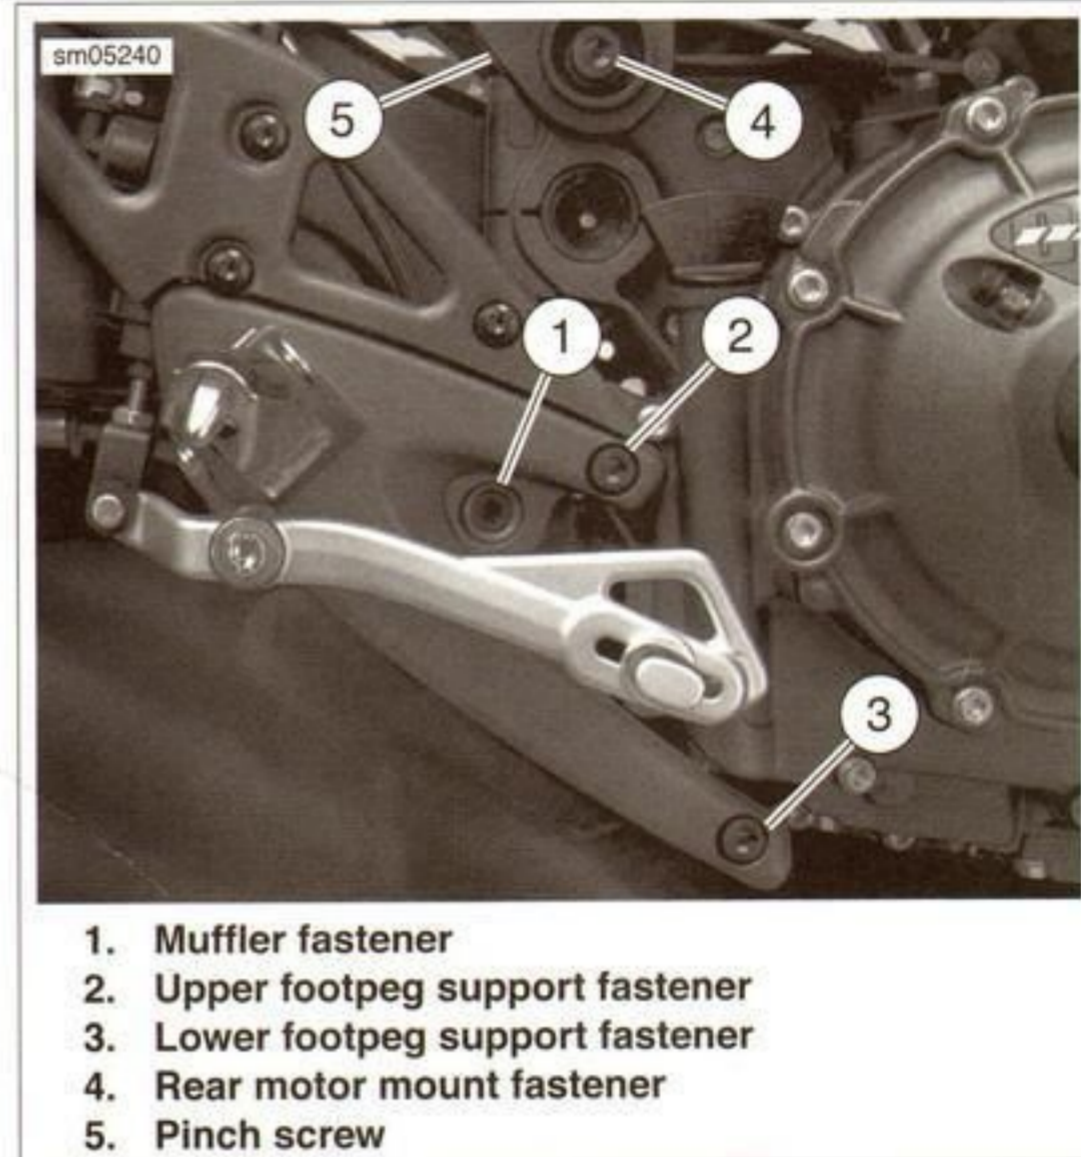

Figure 3-46. Right Rider Footpeg Support
1. See Figure 3-46. Install rear motor mount fastener (4) on each side of vehicle. Do not tighten.
- c. See Figure 3-46. Right rear motor mount fastener (4).
- d. Right center motor mount fastener (2).
7. Tighten rear and center pinch bolts (1) to 24.5-27.0 Nm (18-20 ft-lbs).
1. See Figure 3-46. Tighten fasteners (2, 3) to 24.5-27.0 Nm (18-20 ft-lbs).